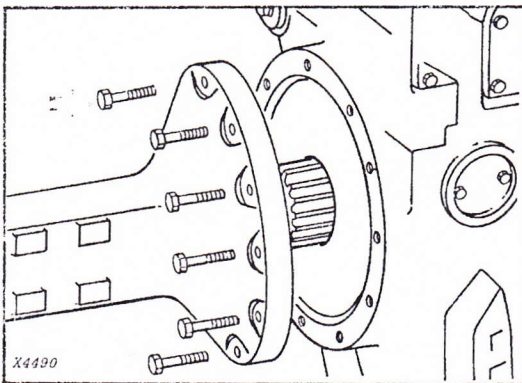

Fig. 5 — When Fasteners are Removed, the Assemblies Can Be Separated into Individual Components
**They simplify repairs.** Fasteners also simplify the jobs of maintenance and repair; by removing the fasteners (Fig. 5), an assembly can be separated into the individual parts for inspection, repair or replacement.